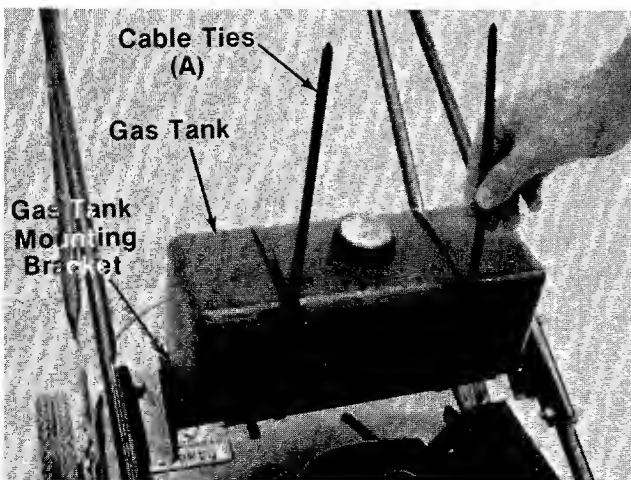

FIGURE 10.
9. Place the gas tank in position on the gas tank mounting bracket. Secure in place with two plastic cable ties (A). See figure 10. Cut off excess ends.